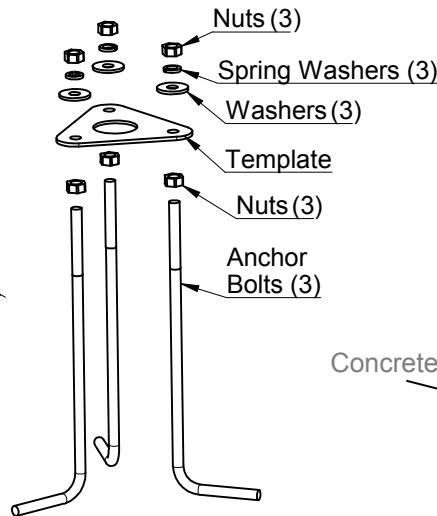

Figure 2
2. Install Anchor Bolts (3) with Template (1) (order separately or customer supplied) into concrete, having at least 1" protruding from concrete with threads free and clear of debris and dirt. See Figure 2 and 3.